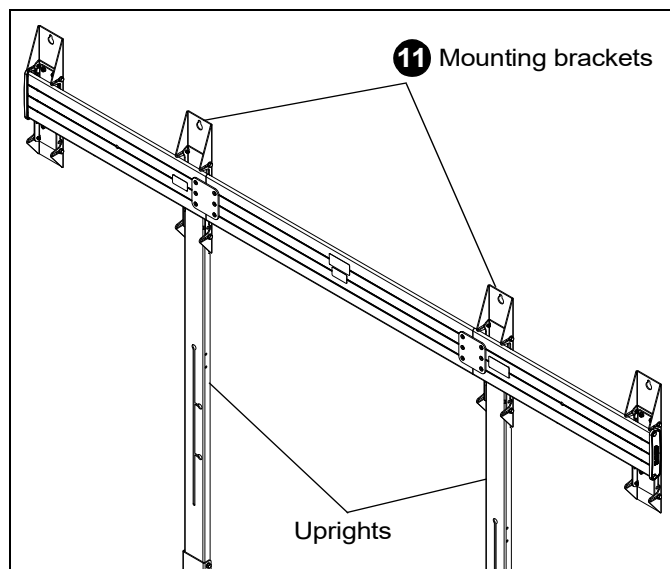

Figure 8
11. Place the inner mounting brackets on the assembled extrusions and mounting rail on top of the TFSMB/TFSMW uprights. (See Figure 8)